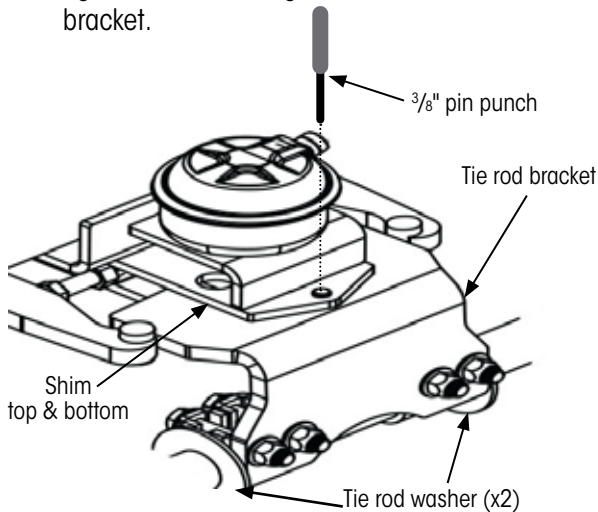

Figure 14: Positioning tie rod bracket
1. Install tie rod bracket, as shown in Figure 14, using hardware removed in Step 2 of REMOVE TIE ROD BRACKET on page 9. **DO NOT** tighten at this time.
2. Ensure the tie rod bracket is correctly positioned in the lock-straight assembly shown in Figure 14.
3. Manually lock the lock-straight assembly with a  $\frac{3}{8}$  inch pin punch (or equivalent) as shown in Figure 14.
4. Temporary shim above and below tie rod bracket (Figure 14) to evenly space (center) the tie rod bracket vertically in lock-straight assembly.
6. If tie rod washers (Figure 14) are loose, refer to installation drawing D-362371 for instructions on tack welding the washers in place.
1. The tie rod bracket should be held in position by the lock-straight air chamber pin. If the centering pin is not in place, insert a 3/8 inch pin punch (or equivalent) as shown in Figure 14 on page 11.